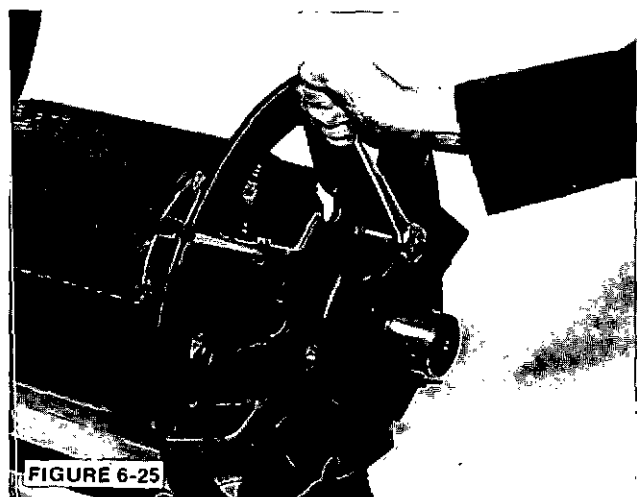
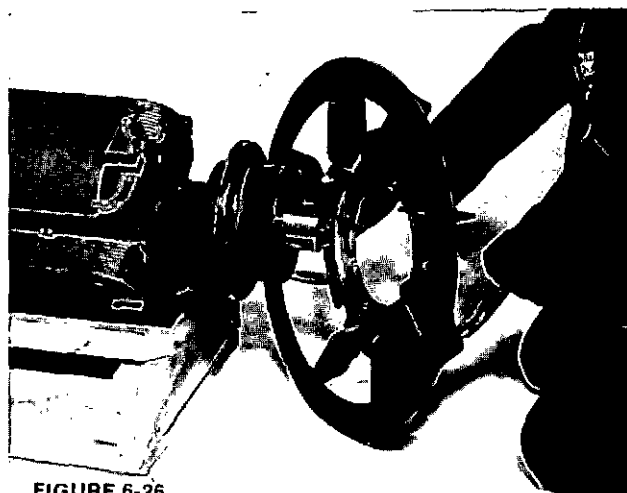

FIGURE 6-25
FIGURE 6-26
3. a. For single bearing generators. Remove the fan mounting capscrews (Figure 6-25.) and slide the fan off the shaft. (Figure 6-26.)
- b. For two-bearing generators, remove the drive end bearing and bearing cap. (See bearing removal instructions.) Remove the fan mounting capscrews and slide fan off the shaft. (Figure 6-25 and 6-26.)